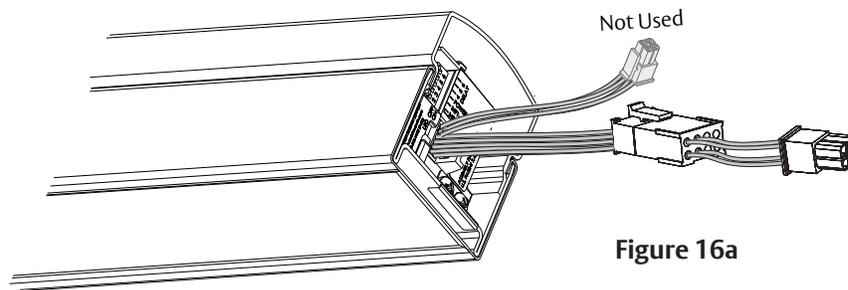

Figure 16a
1. Locate controller at end of rail (Figure 16a).